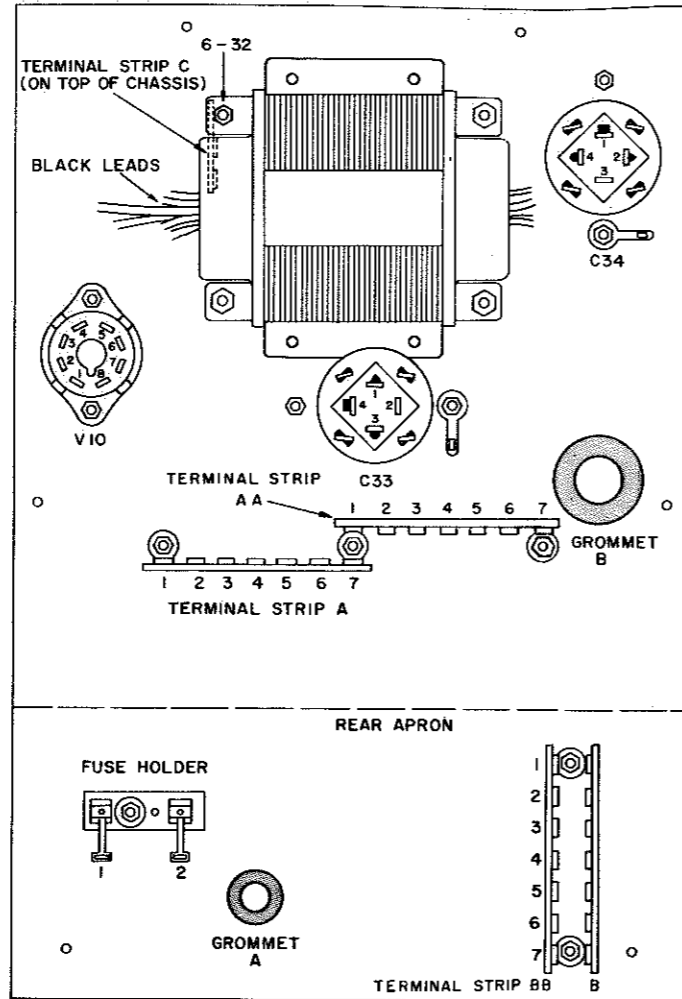
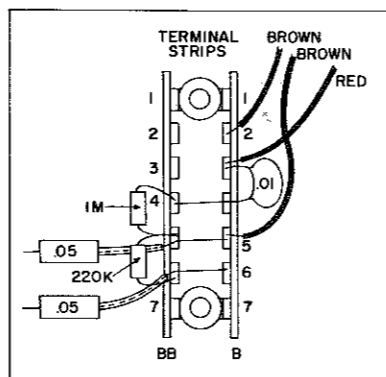

Fig. 2. Parts mounted on the under side of the rear chassis.
FIG. 3. (Left) The under side of the rear chassis.
The underneath side of the rear chassis with the parts mounted in place is shown in Fig. 2. Refer to this figure as you mount the parts. Be sure to mount the parts in the correct holes. You will find it helpful if you will place the chassis in front of you with the rear lip towards you and pointing up as shown in Fig. 2. Run all the screws in from the outside of the chassis so the heads will be on the outside and the nuts will be underneath, unless we specifically tell you otherwise.
- Mount the two 7 lug terminal strips shown as Strip A and Strip AA in Fig. 2. The mounting feet of Strip A point away from the bend in the chassis and the mounting feet of Strip AA point toward the bend in the chassis. Use three 3/8" 6-32 screws and nuts. The middle screw passes through the chassis and one mounting foot of each terminal strip.
- Mount one of the capacitor mounting wafers on top of the chassis over the hole for capacitor C33. Use 1/4", 6-32 screws and nuts. Before you put on the right-hand screw (looking from the bottom of the chassis), put a solder lug on the screw. Position the lug as shown in Fig. 2. Bend the lug slightly before you mount it so you will be able to put a lead through the hole in the lug and solder it, later.
- Mount the other capacitor mounting wafer on top of the chassis over the large hole for capacitor C34. Use 1/4", 6-32 screws and nuts. Mount a solder lug on the screw nearer the back apron. Position it as shown in Fig. 2. Again bend up the solder lug before you put on the nut.
You now have all the parts shown in Fig. 2 mounted, and are ready to go ahead with the wiring.
The chassis wiring, which you are to install now, is shown in Fig. 3. Refer to this figure as you go along, to be sure you get the wires in the right places. The terminals on the terminal strips, fuse holder, electrolytic capacitors, and tube sockets are numbered in Fig. 2 and Fig. 3.
Several of these wires are to be connected at only one end at this time. Be sure to use the lengths specified, and lay them out on the chassis as shown in Fig. 3. Several of them will be much longer than the chassis.